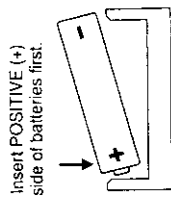

Figure 2
2. Install the batteries positive (+) side first (see Figure 2). Use only Eveready Alkaline Energizer batteries. Only replace low batteries with fresh ones. Always replace all three batteries at the same time.